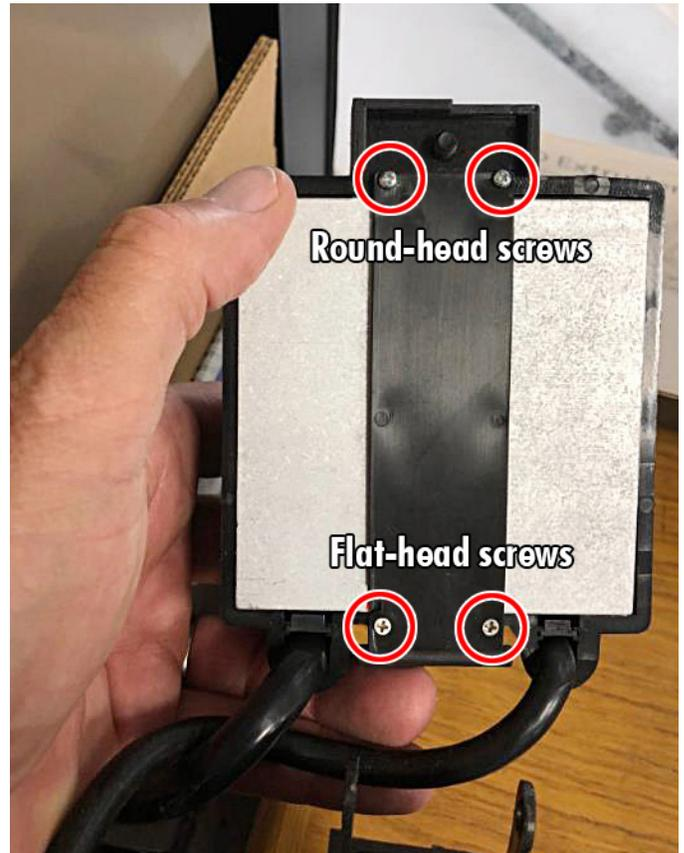

FIGURE 11
18. When you put the hinge bracket back on the speed control, make sure that the two flat-head screws are on the backside where the motor cords come out, and the two round-head screws are on the front side (see Figure 11). Do not overtighten these screws. They are going into plastic, and they will strip out the plastic easily if you overtighten them.